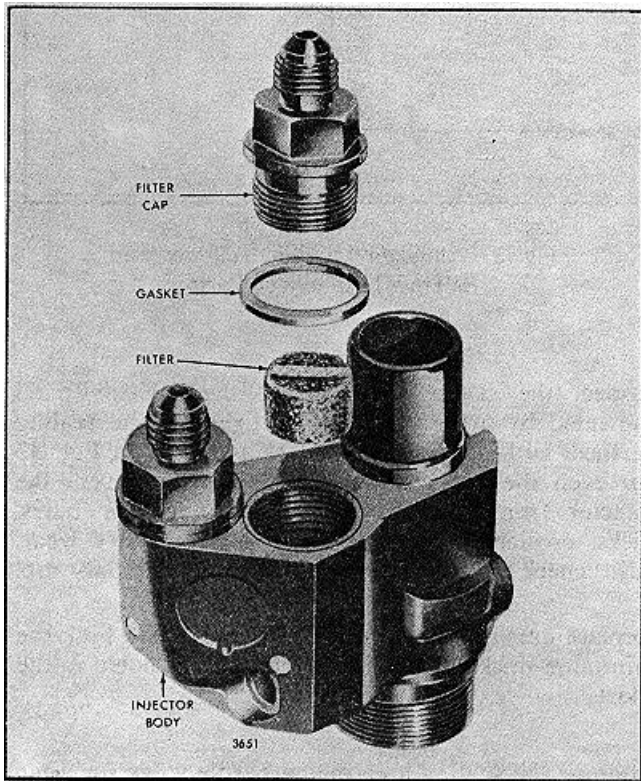

FIG. 35 -Details of Injector Filters and Caps and Their Relative Location
1. Insert a new filter, dimple end down, slotted end up, in each of the fuel cavities in the top of the injector body (Fig. 35).